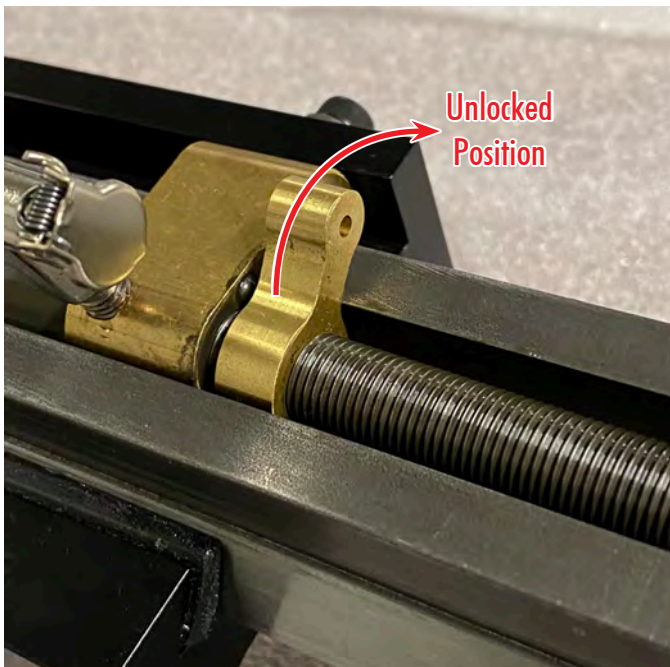

FIGURE 39
B. Insert the leadscrew/lock assembly into the cavity in the column bed. With the lock in the unlock position, push the leadscrew down into the top of the saddle nut (see Figure 39).